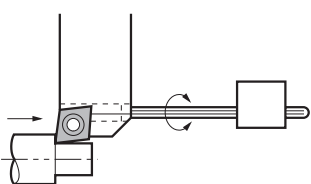

Fig.1
1. The lock screw can be operated from the back side and allows simple insert replacement on Swiss type automatic lathes. (Fig.1)